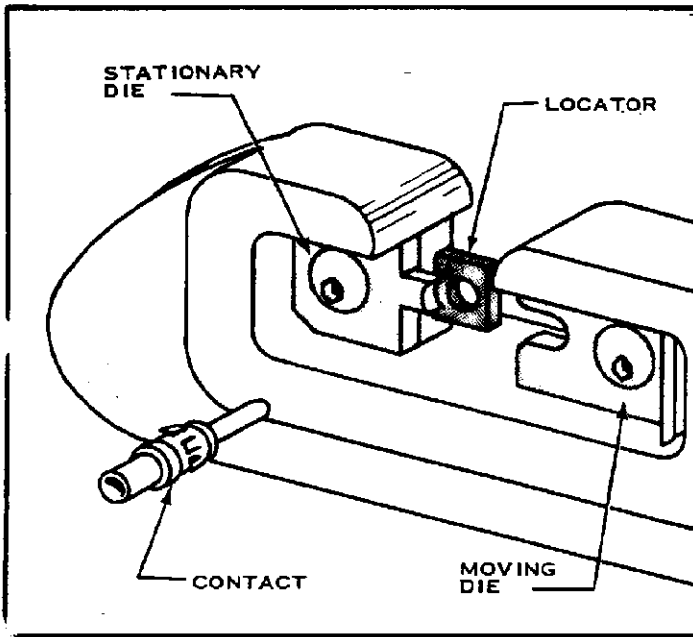
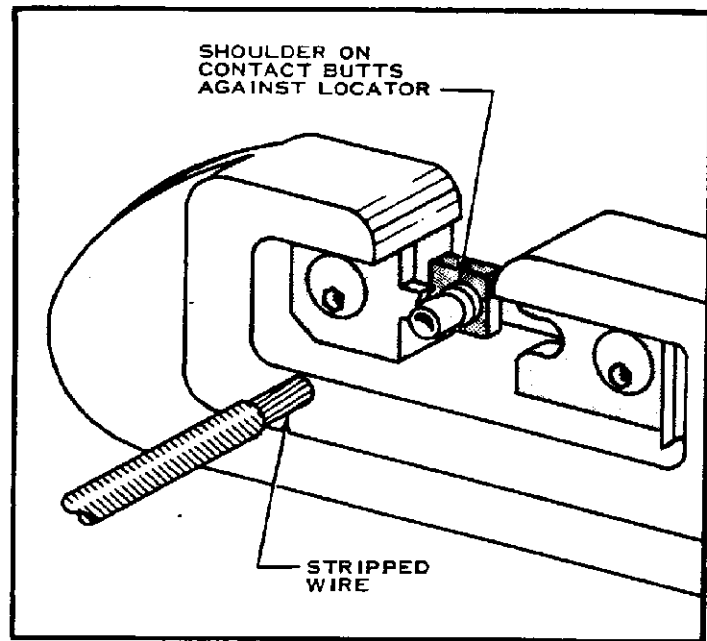

FIG. 3
FIG. 4
- (a) Place Contact in Locator as shown in Figure 3. Make sure Shoulder on Contact butts against Locator. See Figure 4.